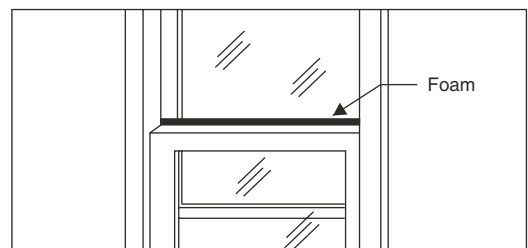

Fig. 18 – Foam Fitting
- A. Cut the foam to fit the opening between the top of the inside and outside window (see Fig. 18).